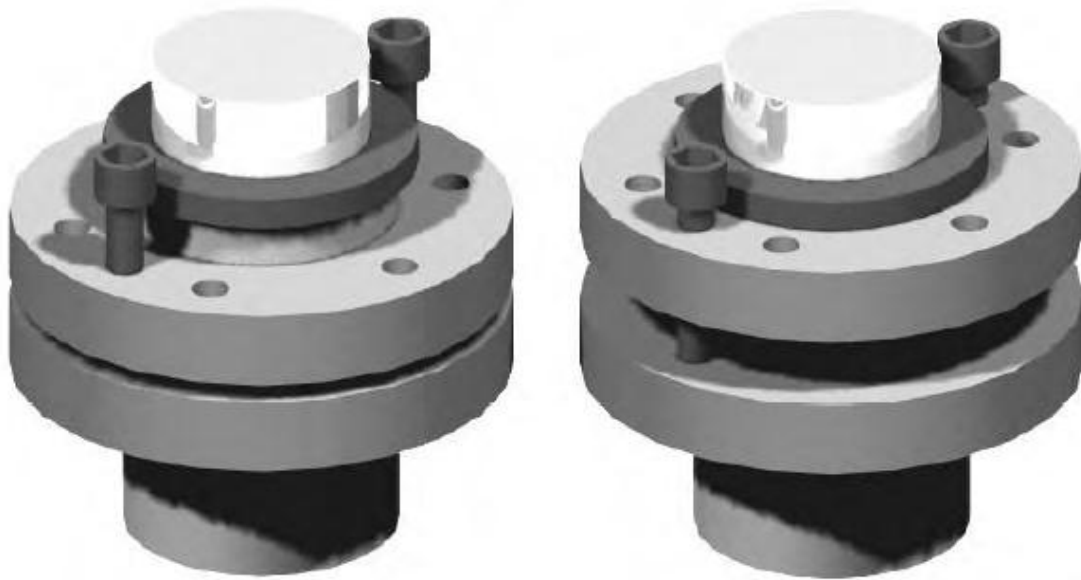

Figure 4-15. Removing the Torque Bushing
4. Remove the torque bushing. If necessary, use the collar as a puller. To do this, first remove all tightening bolts, and then use the bolts to pull the collars apart and extract the bushing. See figure 4-15.